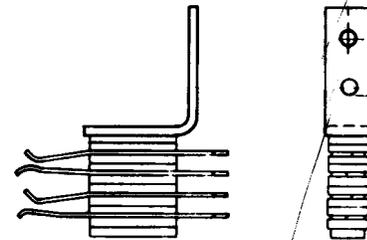

Fig. 19—349A or B Jack
**2.19 349A and B:** These multicontact jacks (Fig. 19) are used with the 240A or similar-type plugs. These jacks consist of a metal bracket on which there are mounted two pairs of contact springs insulated from each other. These jacks are designed primarily for terminating tests or talking lines in step-by-step switching systems.